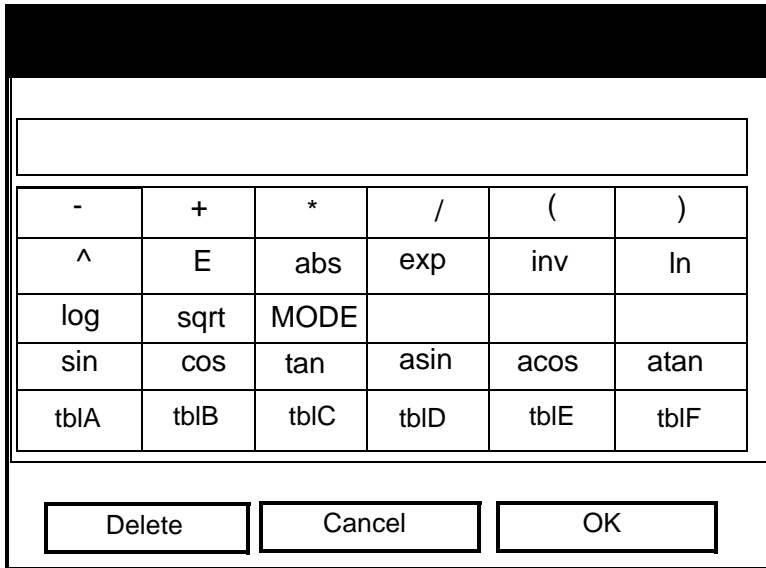

Figure 3-20: The Function Creation Window
- d. When you have completed the label, press [F3] (OK) to confirm the label, or [F2] (Cancel) to leave the window without adding the label.
- c. When you have completed the label, press [F3] (OK) to confirm the symbol, or [F2] (Cancel) to leave the window without adding the symbol.
- a. Press [ENTER] to open the function creation window, which appears similar to Figure 3-20 on the next page.